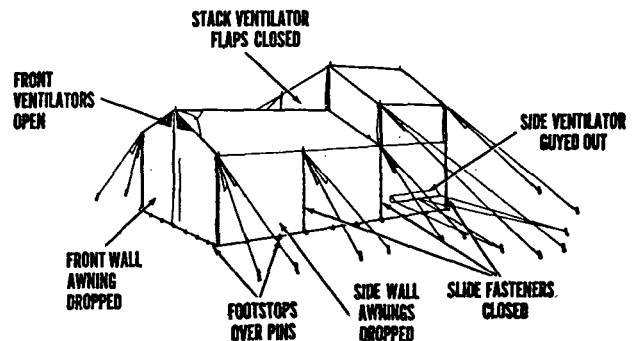

Figure 43. Closing tent, kitchen, flyproof, M-1948 for blackout.
- (8) Closing tent for blackout (fig. 43). Remove awning poles. Drop awnings and close slide fasteners. Place footstops over the same pins that are used for the screens. Close top stack section ventilator flaps. Make sure that top front service section ventilator flaps are open. Tie lines of bottom stack section ventilator hoods in sides and rear to pins to assure a draft through the tent.